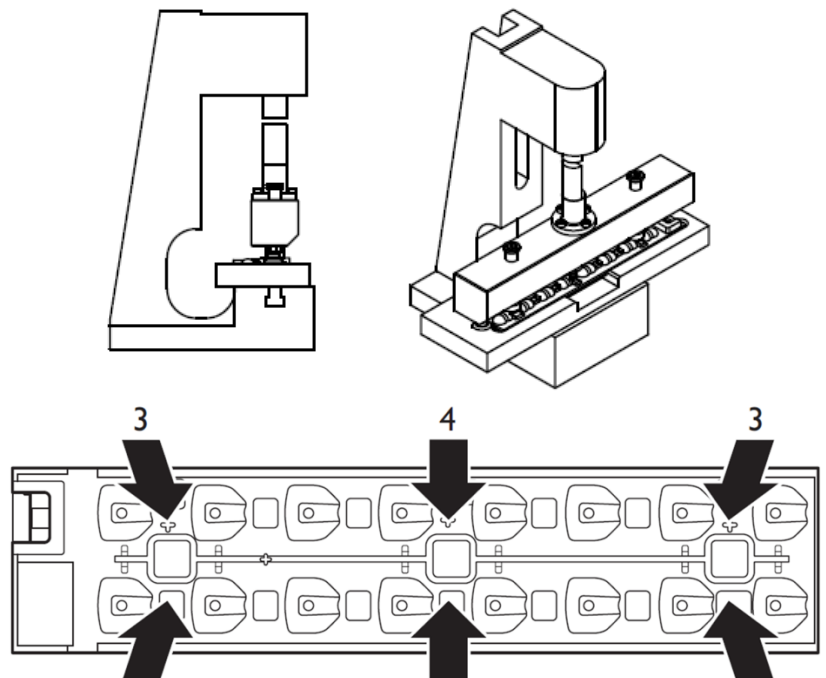

Figure 51. Step 3 of manual pre-assembly procedure
If pressing with the fingers requires too much force, a hand-held tool can be used. The pressing device must have a similar stamp to that shown in Fig. 51.
Figure 51 provides an example of a tool developed for mechanical pre-assembly. The tool consists of an orthogonal plate (A) screwed on three (3) π -shaped legs (B). The middle and the outer legs are oriented along the width of the board above the middle and the outer pins of the lens plate respectively. The open area on each leg is needed to avoid pushing the plastic protrusions from the lens's central square slots. The metal structure is connected to a force meter (C).